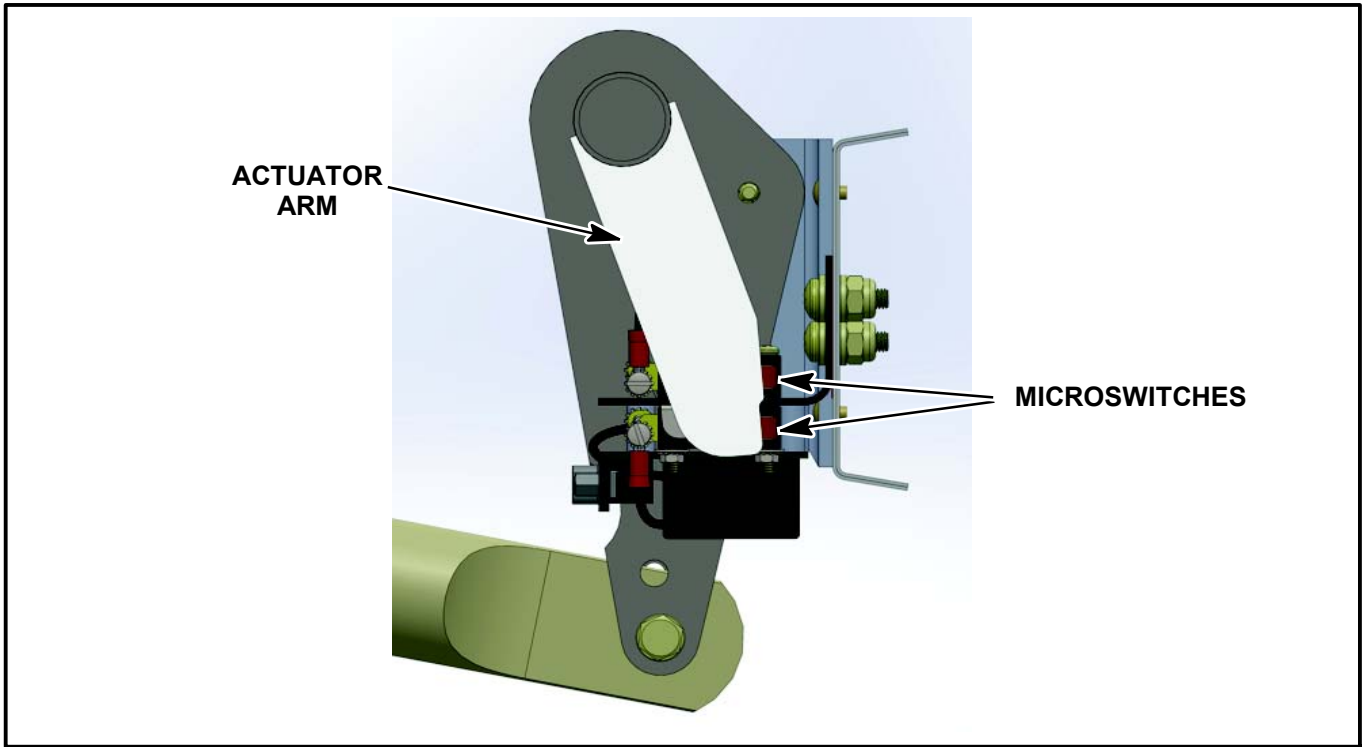

Figure SIM20-142-04 - VIEW OF FLAP ACTUATOR ARM
- a. Select Flaps to "Takeoff Position". (Refer to Figures SIM20-142-04.)